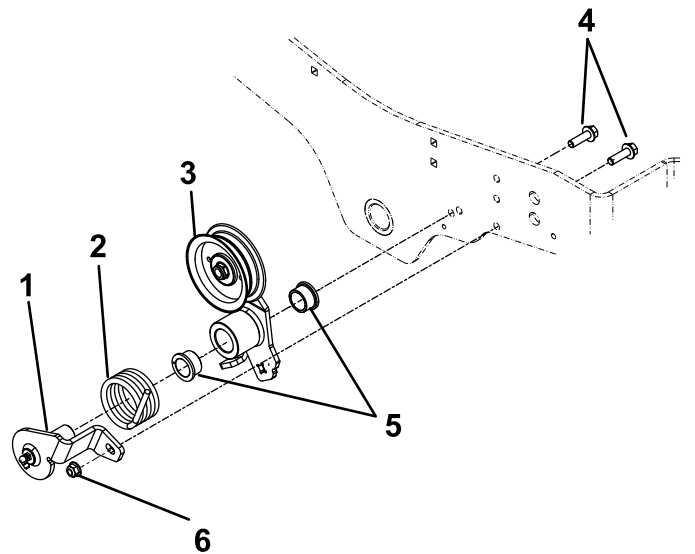

Figure 6
3. Install the idler support and idler arm to the frame of the machine with 2 bolts (3/8 x 1-1/4 inches), 2 bushings, a spring, and a nylon locknut (3/8 inch); refer to Figure 6.